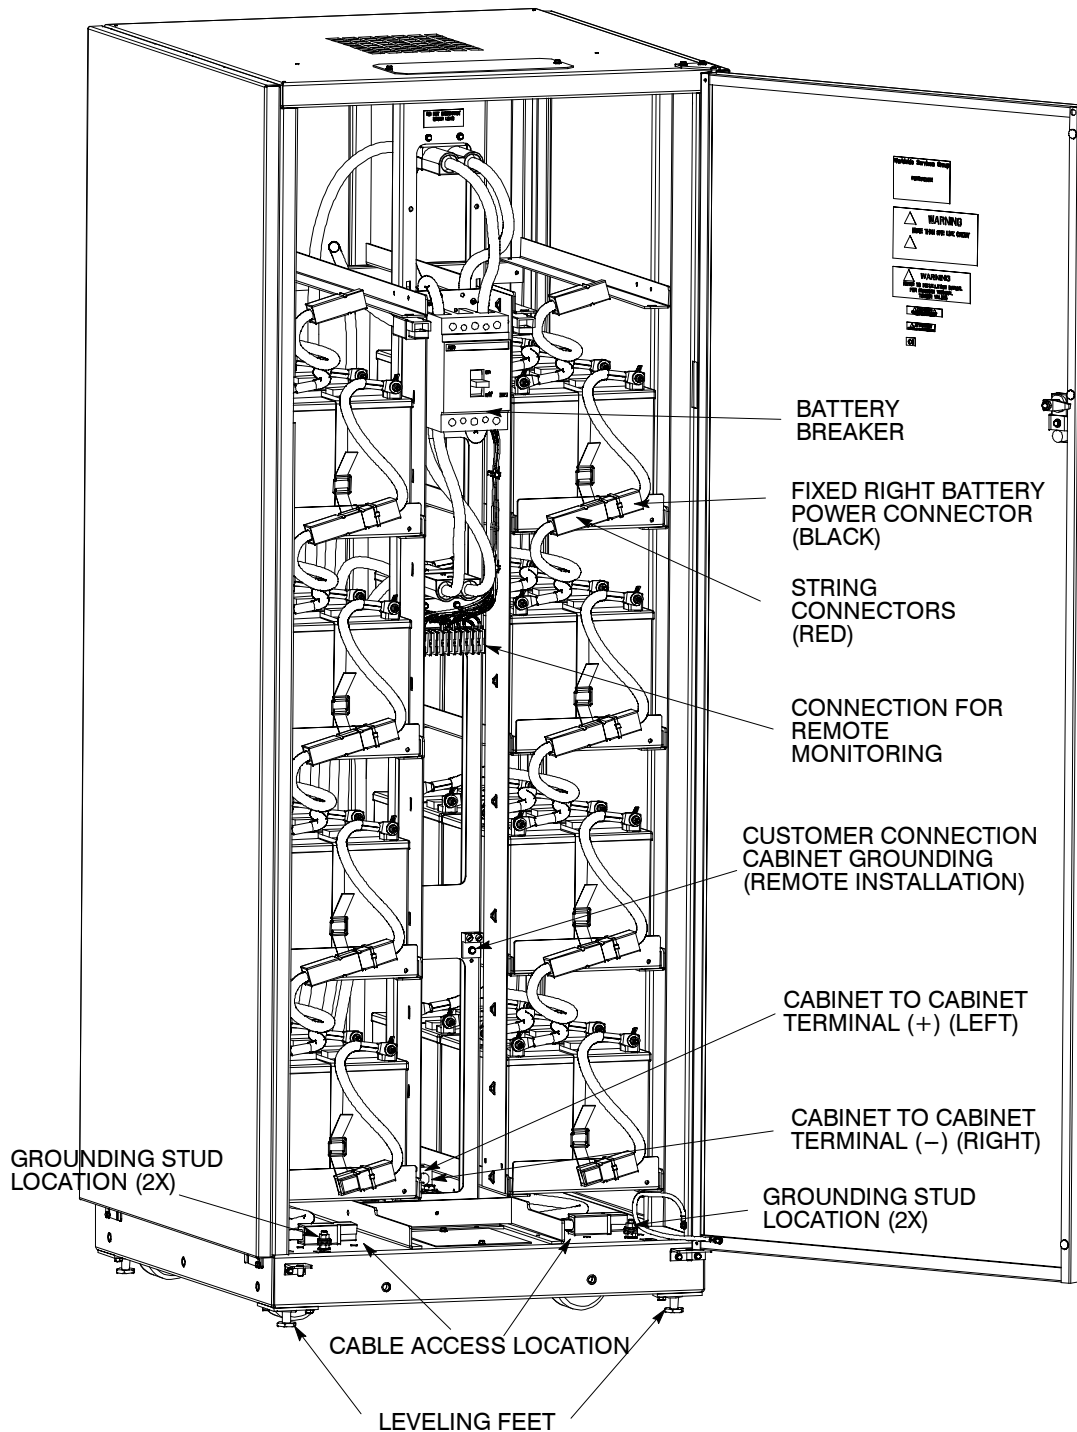

Figure 10. Series 685 Battery Cabinet Wiring Detail
2. After making sure that all battery breakers are in the OFF position, connect the string of battery trays together by mating the loose red connector from each tray to the fixed black connector mounted on the front edge of the tray above it (see Figure 10 for Series 685 and Figure 13 for Series 1085).
2. After making sure that all battery breakers are in the OFF position, connect the string of battery trays together by mating the loose red connector from each tray to the fixed black connector mounted on the front edge of the tray above it (see Figure 10 for Series 685 and Figure 13 for Series 1085 for location of all items discussed in this section).
7. Route cables from positive (+) and negative (–) terminals in the bottom of battery cabinet #1 through conduit (top or bottom entry) to terminals E4 and E5 of the UPS cabinet. See Figure 10 or Figure 12 for location of positive (+) and negative (–) terminals.